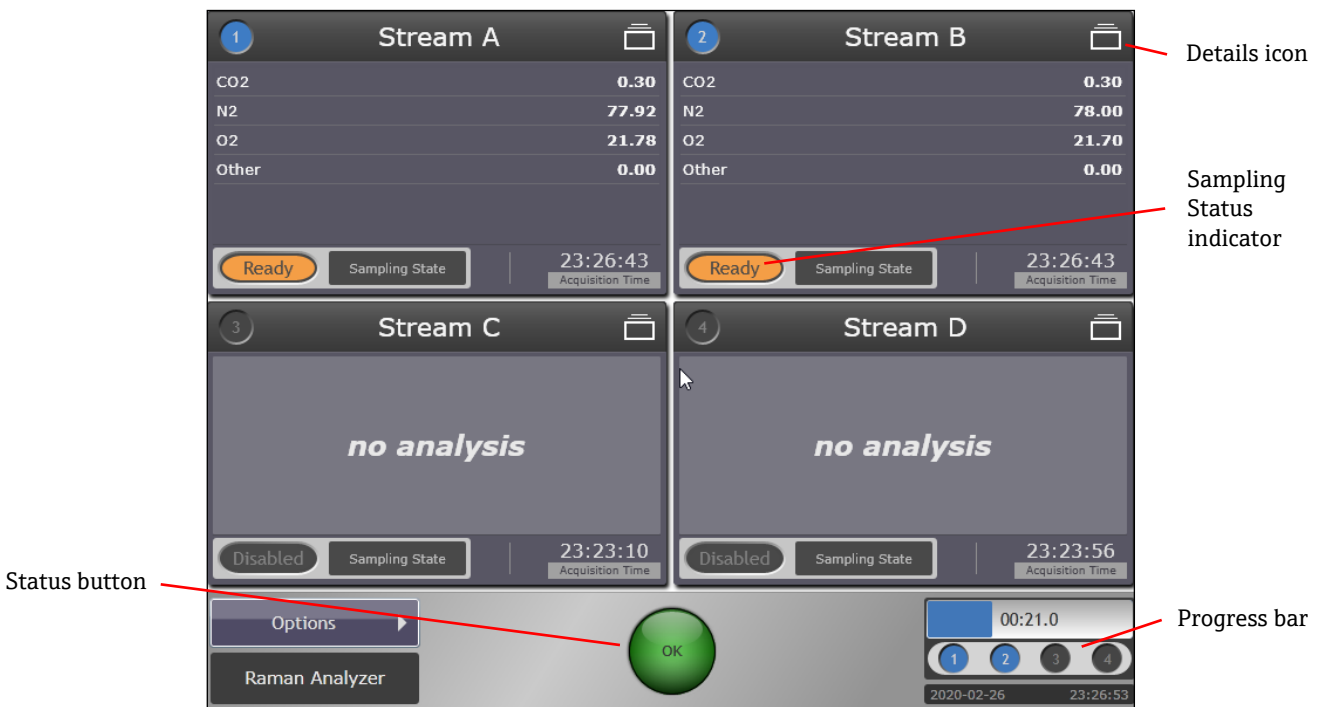

Figure 51. Raman Rxn5 main screen
The main screen of the user interface displays the most recent results for each of the four streams. See Figure 51. Each stream’s data is displayed in a separate quadrant.
The **Status** button is located at the center bottom of both the Main Screen and the Stream Detail View. See Figure 51 and 54. **Green** (OK) indicates the status is normal, **Yellow** (Warning) indicates at least one item is in a warning state while no items are in an error state, and **Red** (Error) indicates at least one item is in an error state.
To access the Stream Detail View, from the Main Screen (Figure 51), click the **Details** icon (see Figure 51). The Stream Detail View has three tabs: Analysis, Sampling, and Settings, which are described in the following sections.